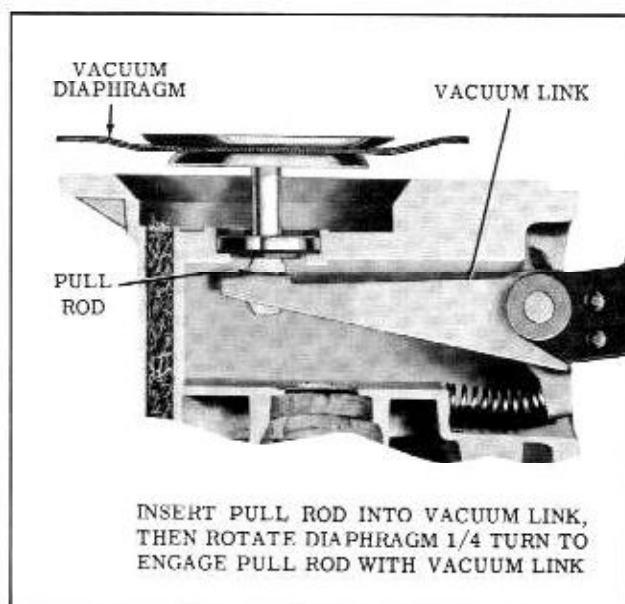

Fig. 8-70 Installing Fuel Diaphragm
1. If valves were removed, place paper gaskets in recesses provided for valves in the vacuum cover. Place valve assemblies on top of gaskets. (Fig. 8-70)